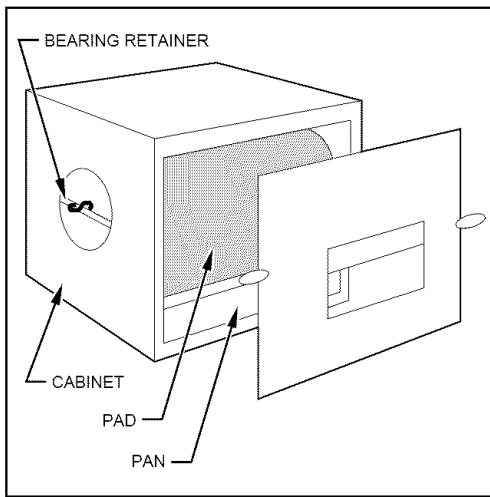

Fig. 10 — Model HUMCCWTR2019-A--
- On a Model HUMCCWTR unit, look through the window on front of the unit to see that the evaporator pad is rotating and water is flowing. (See Fig. 10.)
5. Remove and inspect the evaporator pad assembly. Lift the bearing from its retainer. (See Fig. 10.) Pull the assembly away from the motor to disengage the assembly shaft from the motor coupling. Remove assembly through the access opening.